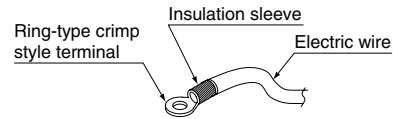

Fig. 6
- Use ring-type crimp style terminal for connections to the power terminal block. (Refer to Fig. 6)